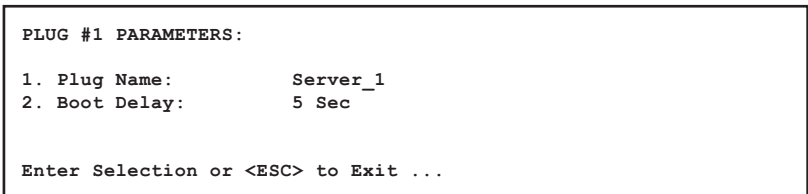

Figure 5.6: Plug Parameters Menu - Text Interface
**Text Interface:** Type **/P n** and then press **[Enter]** (Where **n** is the number or name of the plug you wish to configure.) The Plug Parameters Menu will be displayed as shown in Figure 5.6.